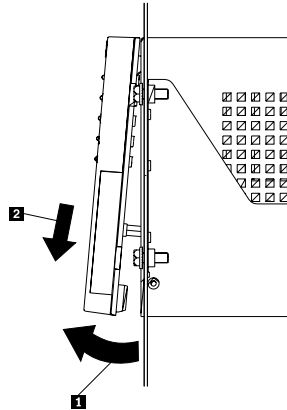

Figure 6. Removing the controller-unit bezel (machine types 3526 and 3552)
1. Remove the front bezel (machine types 3526 and 3552), from the controller unit, as shown in Figure 6. Carefully pull the bottom of the bezel out to release the pins **1**; then slide the bezel down **2**.